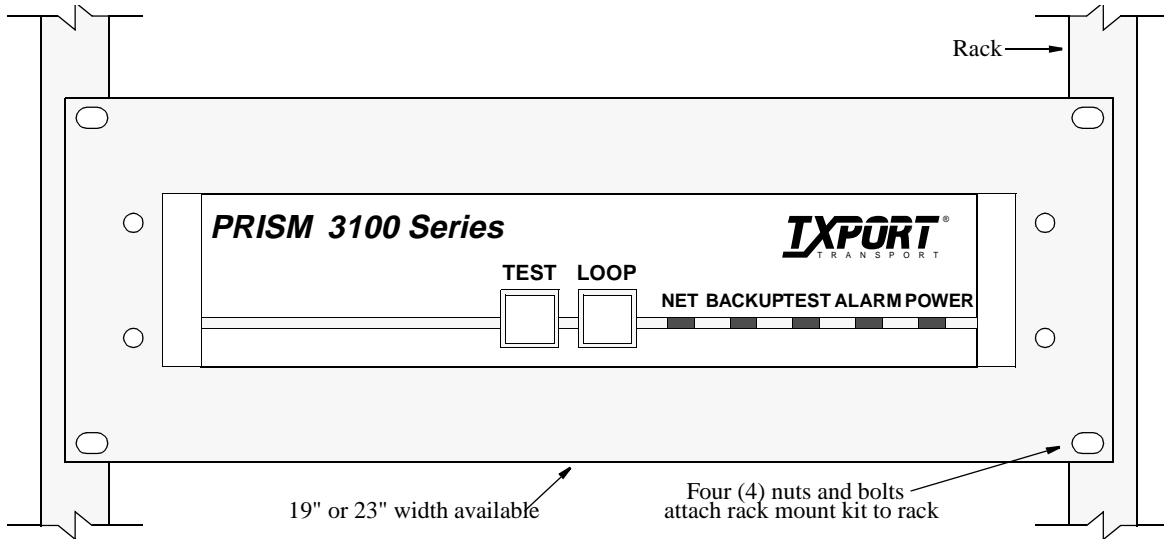

Figure 2-3 Rack Mount Assembly (Front View)
- To install the rack mount assembly into a rack, tighten the four sets of nuts and bolts that attach the plate to the rack as shown in Figure 2-3.